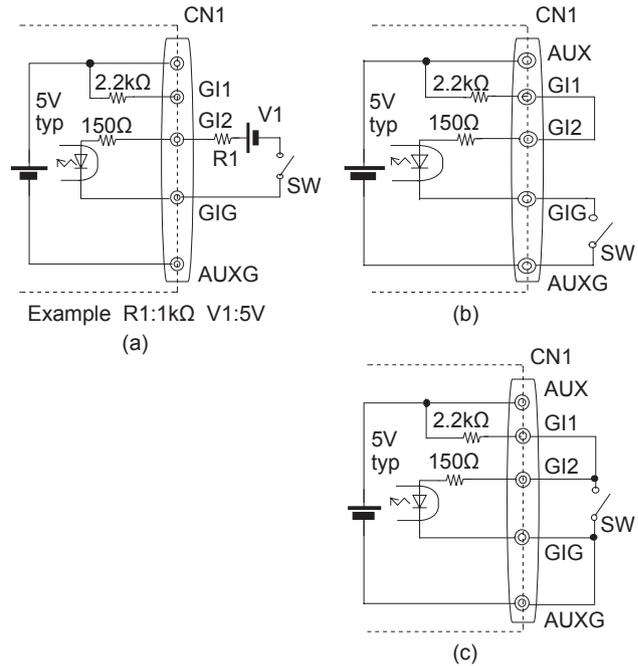

Fig.3.7 Connection examples for Global inhibit
3.13 Global inhibit (GI)
- The unit has the Global inhibit function. Global inhibit is the control signal input which turns all outputs off by supplying the current into GI2. Table 3.2 is specifications and Fig.3.7 is use examples for Global inhibit.
- ① The output can be turned off by supplying the current into GI2 pin.
- ② The current into GI2 pin is 3mA typ (12mA max).
- ③ The PR signal will get "High" when all output modules are turned off by the Global inhibit function.
- ④ When stopping outputs by Global inhibit, the built-in fans also stop.
- ⑤ AUX is available even when outputs stop by Global inhibit.
- ⑥ When stopping outputs by Global inhibit, the derating is required for AUX. Please refer to the item 3.16.
- ⑦ If the voltage or the current which exceeds the value in table 3.2 were supplied into GI2 pin, the output might not be generated correctly.
- ⑧ Start time is 1,000ms max.